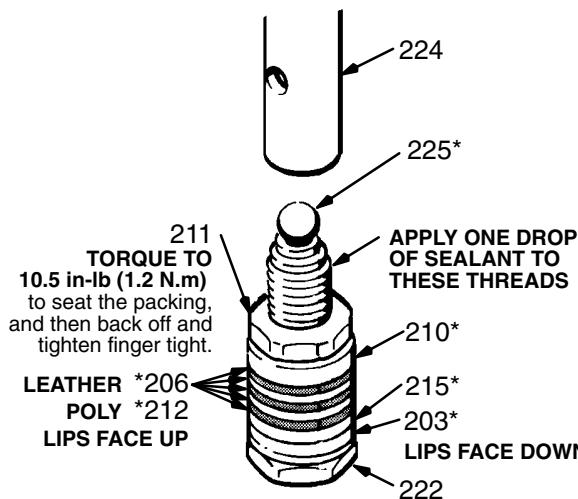

Fig 35-1
7. Clamp the flats of the piston rod in a vise. Loosen the retaining nut (211). Unscrew the piston valve (222) from the rod. Remove all parts from the piston valve (222). *Refer to Fig 35-1.*
NOTE: Alternate leather and plastic packings as shown in Fig 35-1. The lips of the throat "V" packings must face down, against pressure. The lips of the piston "V" packings must face up, against pressure. The lips of the U-cup seal (203) face down. Incorrect installation damages the packings and results in pump leaking.
1. Check the outside of the piston rod (224) and the inside of the sleeve (218) for scoring or scratches. If these parts are damaged, new packings will not seal properly. Replace these parts if needed.
2. Stack the backup washer (214), seal (203*), female gland (215*), alternate the packings (212*, 206*), and then male gland (210*) onto the piston valve (222). *Refer to Fig 35-1.*
4. Place the ball (225) on the piston valve (222). *Refer to Fig 35-1.*
5. Apply one drop of adhesive, supplied, to the threads of the piston valve. Then hand tighten the valve assembly into the piston rod just until the nut (211) contacts the rod. *Refer to Fig 35-1.*
NOTE: The tapered end of the sleeve is the bottom of it. *Refer to Fig 35-1.*